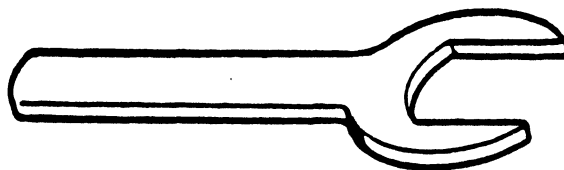

Fig 1-13. Fuze setting wrench (9349539).
h. Fuze setting wrench (9349539) (fig 1-13); the fuze setting wrench is a 1 3/4 inch open end wrench used to set the time on the M853 Illumination and the M819 Red Phosphorus round.